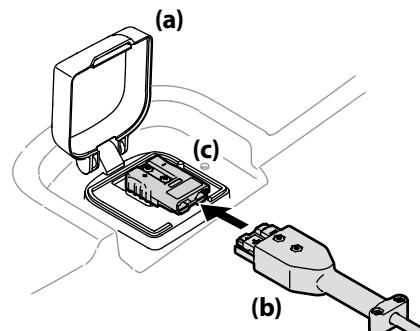

Figure 2-11
1. Lift the charge port door (a), located on the rear body panel of the mower. See Figure 2-11.
2. Insert the charging cord (b) into the charge port (c). Plug charger cord (b) into wall outlet. See Figure 2-11.